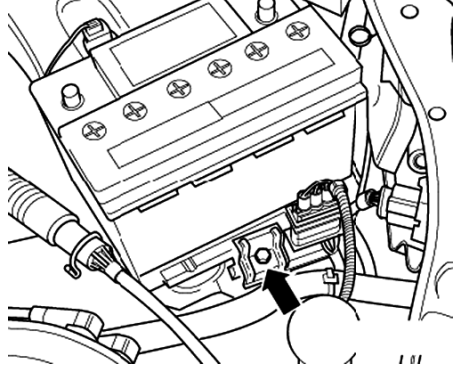

Fig. 7 Battery removal
16. Remove bolt (arrow), and remove retaining bracket, **Fig. 7**.